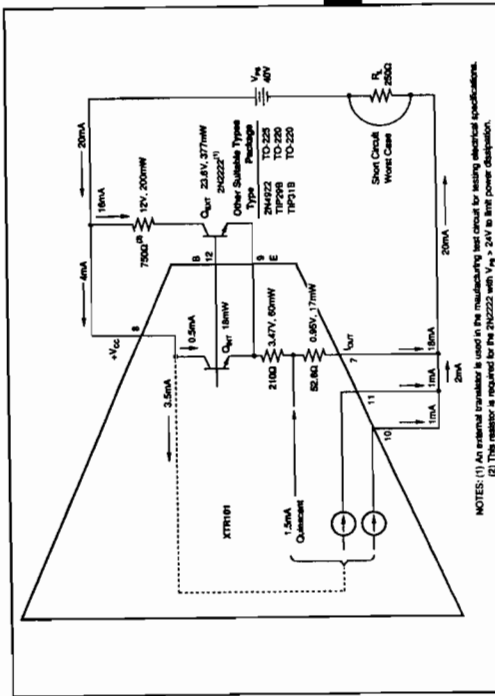

FIGURE 2. Power Calculation of XTR101 with External Transistor.
An optional external transistor, when used, is connected in parallel with the XTR101's internal transistor. The purpose of the external transistor is to increase accuracy by reducing heat change inside the XTR101 package as the output current spans from 4-20mA. Under normal operating conditions, the internal transistor is completely turned off as shown in Figure 2. This maintains frequency stability with varying external transistor characteristics and wiring capacitance. The actual "cut-off" between internal and external transistors is dependent on two factors: (1) relative geometry of emitter and collector, and (2) relative package dissipation (case size and thermal conductivity). For best results, the external device should have a larger base-emitter area and smaller package. It will, upon turn on, take about 0.05 ( $I_b = 3.3mA$ )mA, however, it will heat faster and take a greater share after a few seconds.
tions shown in Figure 2. Thus the 2N2222 will safely operate below its 400mW rating at the upper temperature of +85°C. Heat sinking the 2N2222 will result in greatly reduced accuracy improvement and is not recommended. 2. TIP29B in the TO-220 package. This transistor will operate over the specified temperature and output voltage range without a series collector resistor. Heat sinking the TIP29B will result in slightly less accuracy improvement. It can be done, however, when mechanical constraints require it.